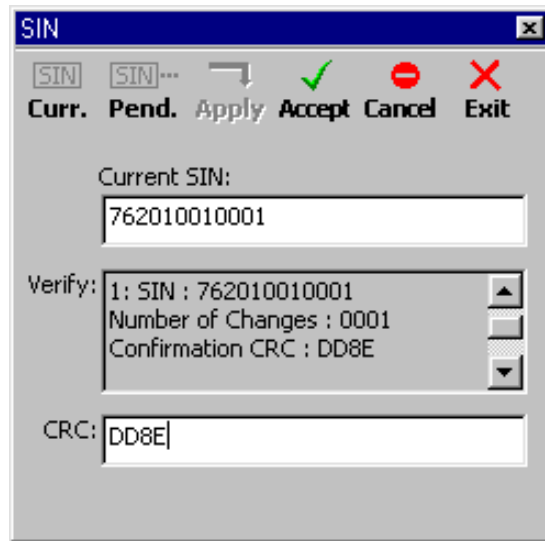

Figure 3-63
5. To prepare the change for acceptance, scroll down the information in the “Verify” list box until the Confirmation CRC value is displayed. Using the keyboard, enter this value in the “CRC” text box immediately below the “Verify” list box (see figure 3-63). Entering the CRC ensures that the changes are sent to the GEO™ unit. This entry is not case sensitive.